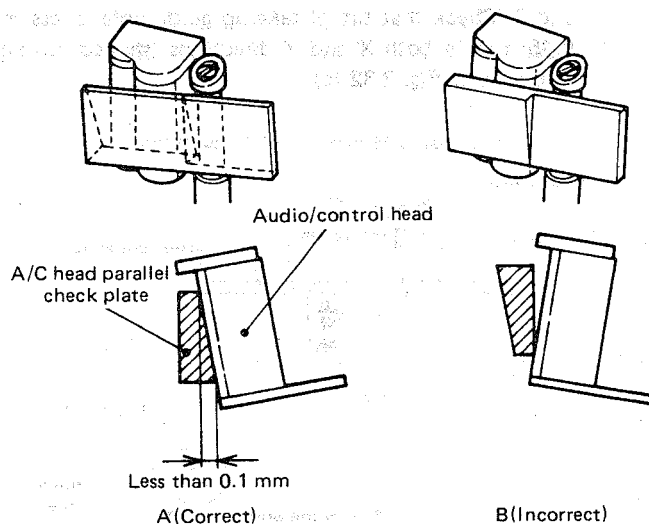

Fig. 2-30
2. Put the A/C head parallel check plate against the audio/control head as shown in Fig. 2-30 and confirm that the inclination is less than 0.1 mm as shown by A.